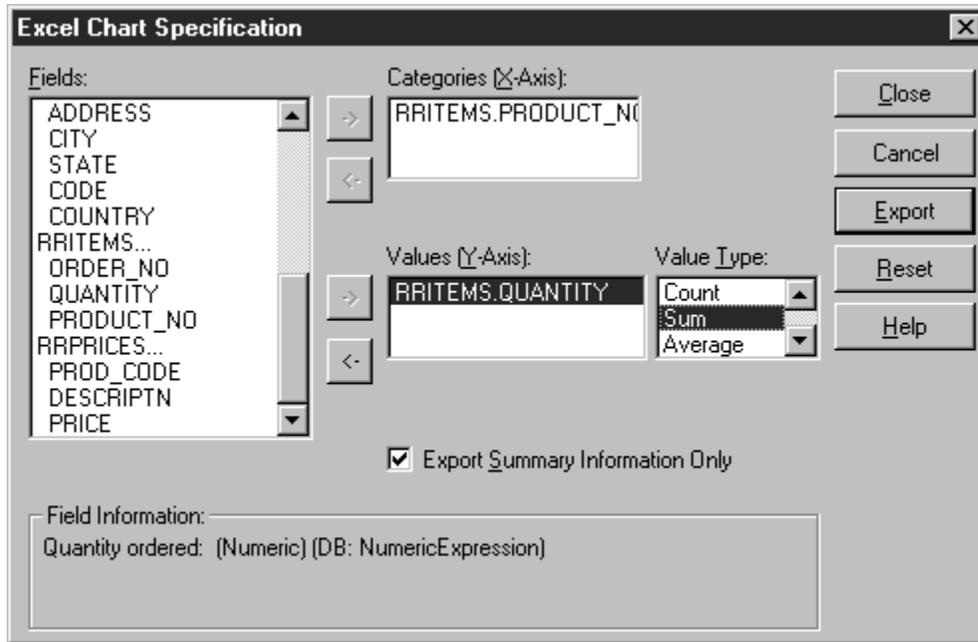

Figure 17.2 Excel 5.0 Chart Specification Dialog
2. On the Excel 5.0 Chart Specification dialog (see Figure 17.2), highlight a field in the Fields list that will supply the category (x-axis) values for the chart. Click the right arrow button next to the Categories box to insert this field name there.